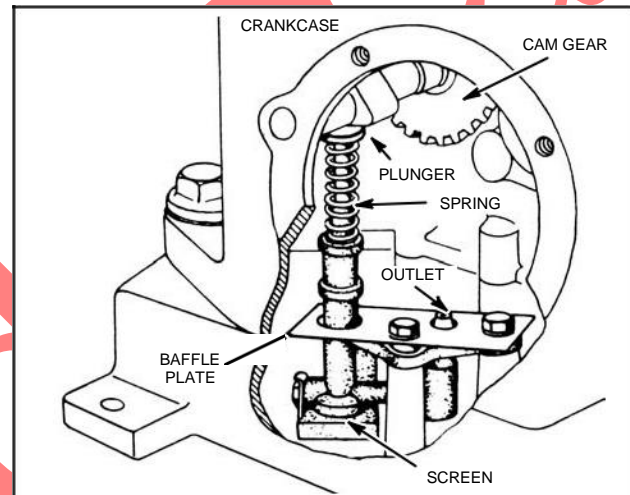

Fig. 568 – OIL SYSTEM
Place pump on two (2) bosses which protrude upward from base. Tighten down with screws, Fig. 568. If a baffle plate is used, the screws are longer and the spacers go between the pump and the baffle plate, Fig. 568. Place plunger and spring in place.